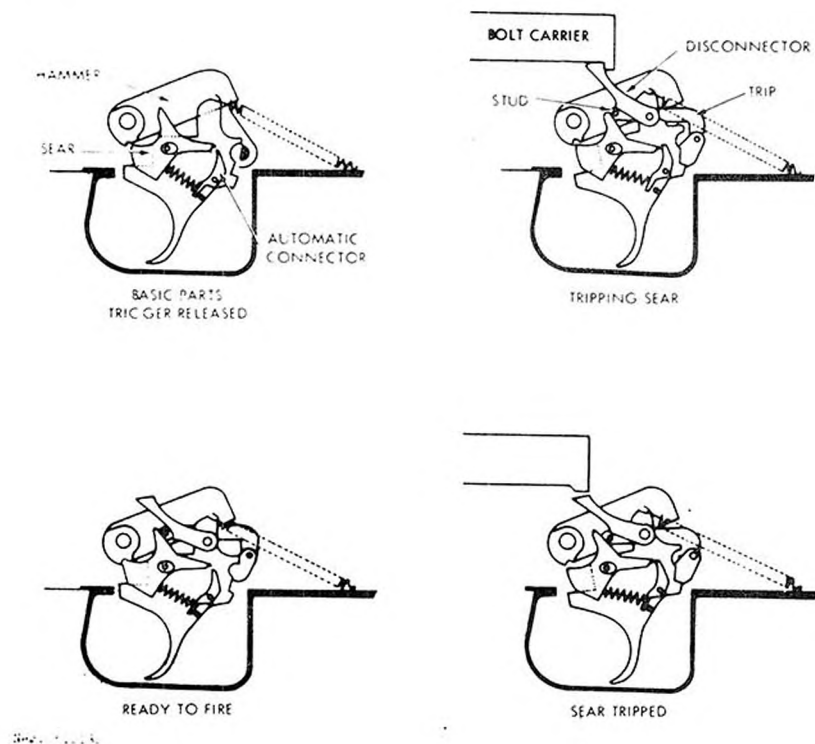

Figure 131. StG 57 trigger functioning.
e. When the selector is set at T for semiautomatic fire, it does not affect the components of the trigger mechanism. The trigger and the sear pivot on the same pin (fig 130). As the trigger is pressed, the connector (fig 131) moves upward and contacts the rear underside of the sear (fig 131). Continued trigger pressure causes the sear to pivot on the pin and release the hammer. The hammer swings forward and strikes the firing pin lever. The connector is a fairly heavy part, with most of its weight above its
f. When the selector is moved to A for automatic fire, the trip link (fig 131), because of its joint, moves forward. This action causes the trip link stud (fig 130) to move along the top of the sear until it fits between the sear and the disconnector (fig 131). As the trigger is pressed the basic action in paragraph c above takes place to release the hammer; however, the position taken by the trip link stud now forces the disconnector to protrude into a slot in the bolt. This slot has a closed rear end and when the bolt counterrecoils, it strikes the disconnector and rocks it forward.
The forward movement is transmitted through the trip link stud to the sear (fig 131) and causes the sear to depress and release the hammer. This action continues as long as the trigger is pressed and cartridges are in the magazine. When the trigger is released, the disconnector is lowered; this breaks the connection between the bolt and sear and firing stop.